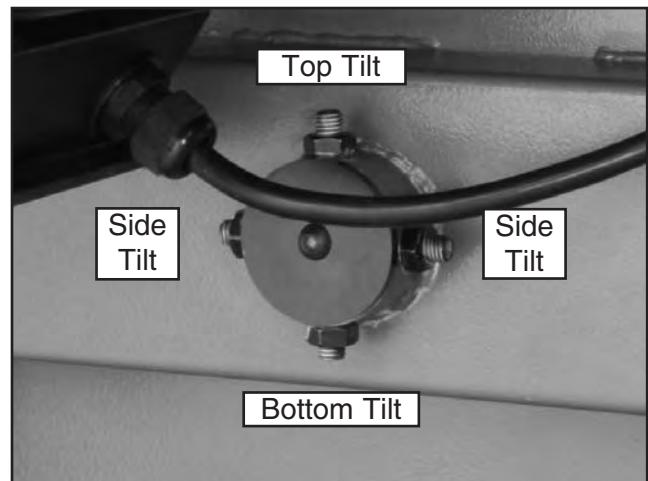

Figure 54. Lower wheel adjustment control.
- If the wheels will go parallel but not coplanar, then move the lower wheel at the adjustment hub (**Figure 54**) as necessary.